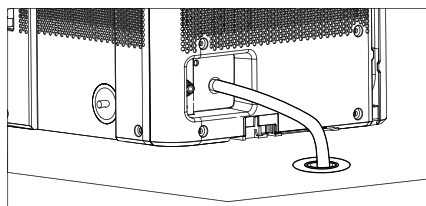
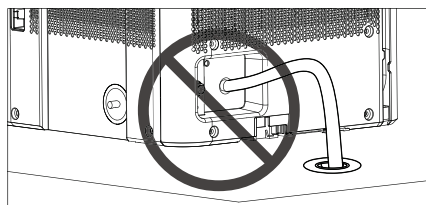

Fig. 6
Fig. 7
Bucketless mode allows you to run the unit without the bucket in place. The included drain hose or a garden hose must be attached and sloped towards the drain for proper bucketless mode operation. Figure 6 shows a proper slope while figure 7 shows an improper slope. The drain must be located below the dehumidifier. For best drain performance, we recommend the end of the drain hose be 4 inches below the hose connection. To activate bucketless mode, the following steps must be completed within three minutes of plugging the dehumidifier in.
3. Make sure the hose for Bucketless mode is sloped down to the drain (see fig. 6) and does not rise above the connection point (see fig. 7).